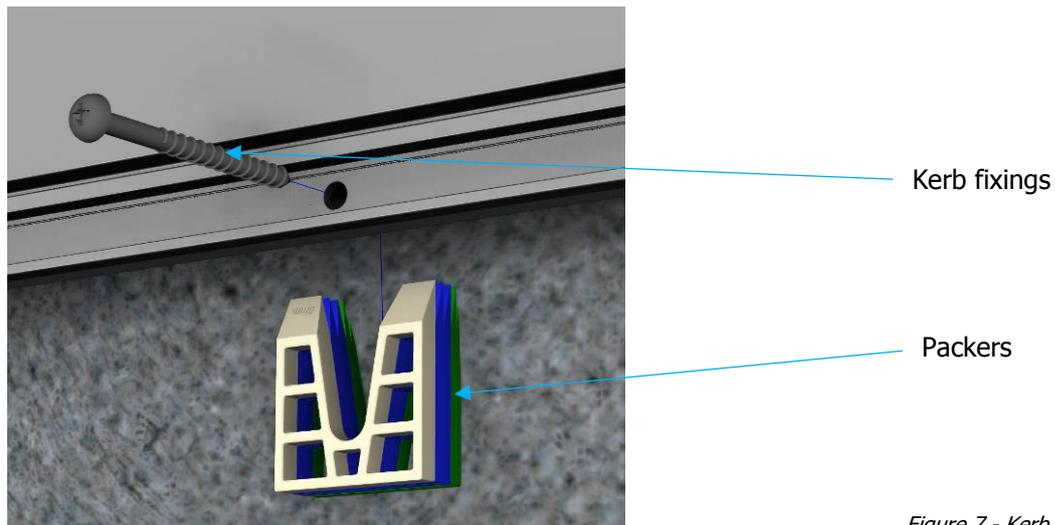

Figure 7 - Kerb fixings
12. Pre-drill 2.5mm into the kerb through the holes in the drip leg. Secure the base frame to the kerb using the woodscrews and packers provided in the hardware kit. The packers must fill the gap between the kerb and rooflight base frame for each woodscrew (*Figure 7*).